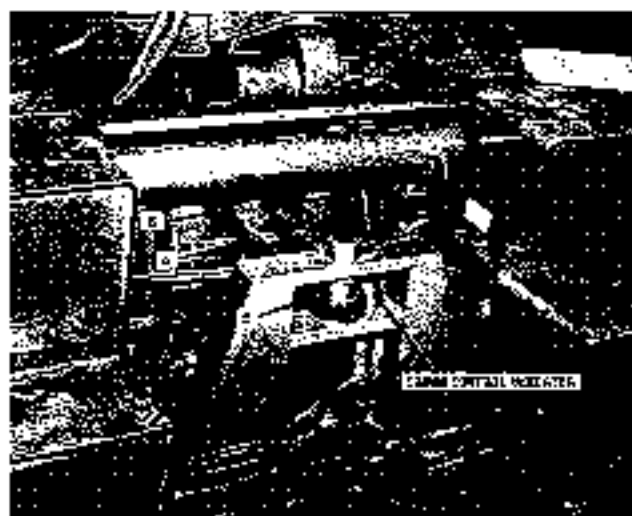

FIGURE H-3 - Crown Control
For normal adjustment of the screed the procedure is as follows: (Refer to Figure H-3.)
TO ADJUST SCREED (Refer to Figure H-3.)
1. Break chain (A) Figure H-3, connecting the two sprockets of the crown control.
2. Remove a little of the crown in the leading edge of the screed using only the screw (B). It is best to make this adjustment while the machine is operating so the result can be watched.
3. After adjusting screw (B), replace the chain so that any time the crown has to be changed both the leading and trailing edges of the screed will stay in alignment.